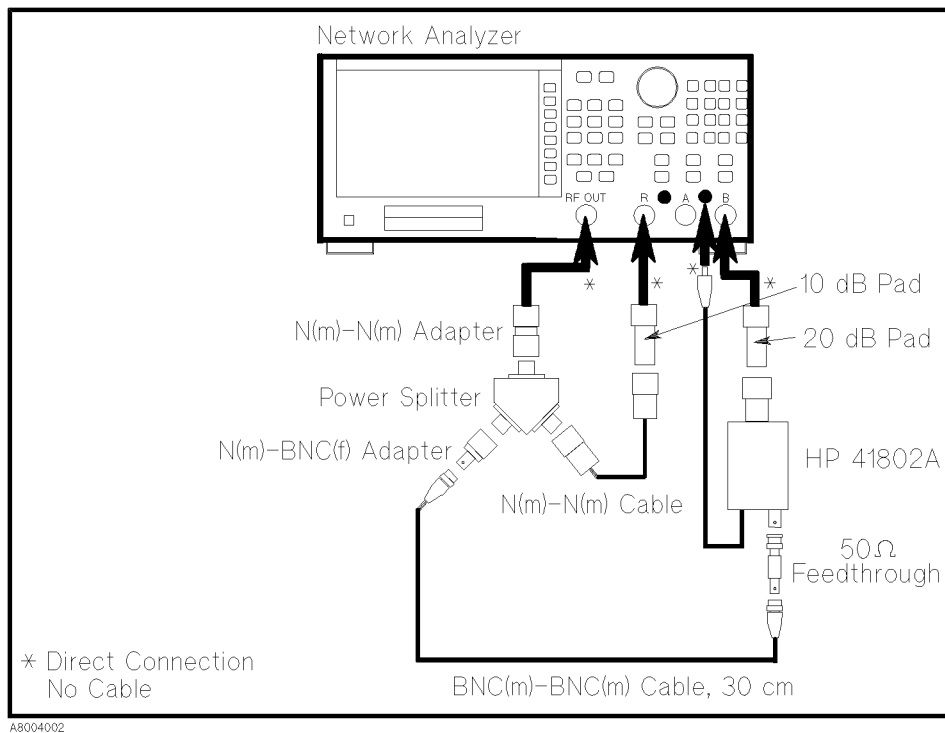

Figure 5-2. Adjustment Setup 2
5. Change the connection as shown in Figure 5-2.